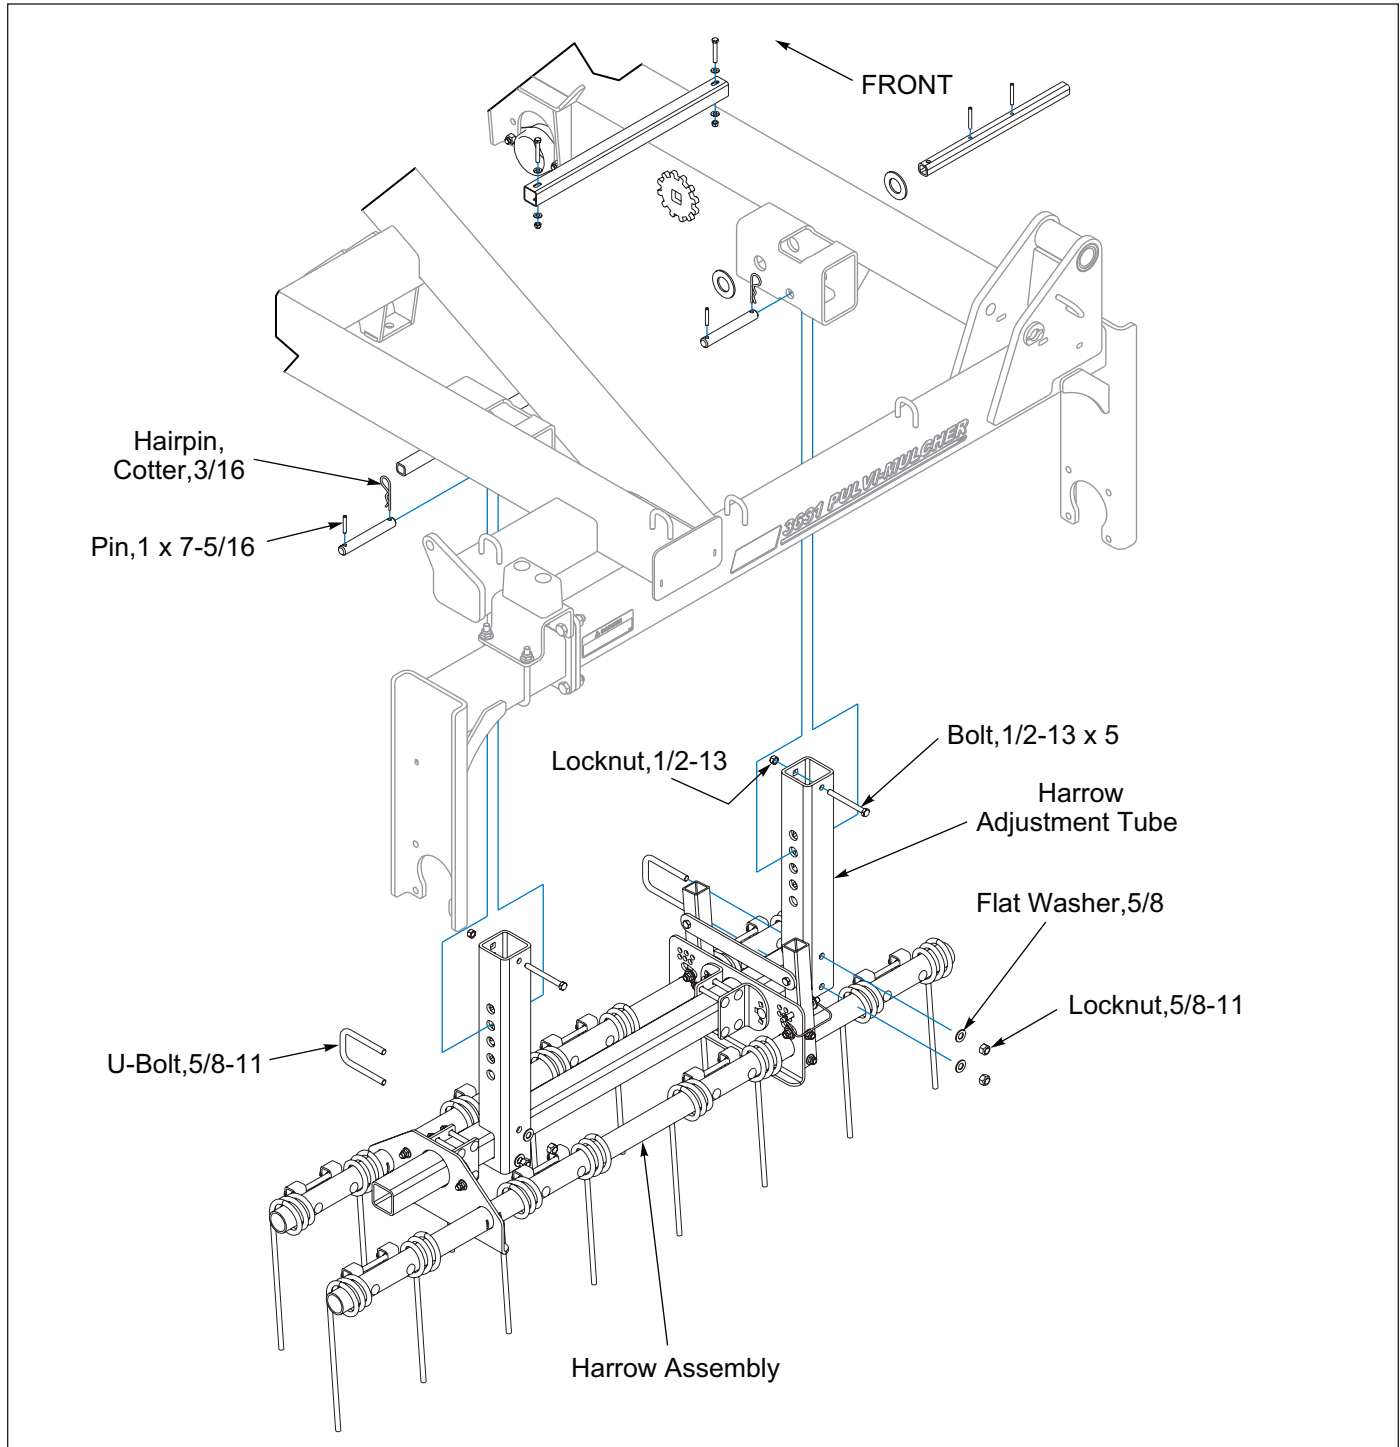

Figure 2-61: Left Hand Wing Harrow
1. Remove 1 x 7-5/16 Pins from each Wing Frame Adjuster Mount. Insert a Harrow Adjustment Tube into each Wing Frame Adjuster Mount and re-insert 1 x 7-5/16 Pin in the bottom hole. Secure with 3/16 Hairpin Cotter. **See Figures 2-61 and 2-62.**